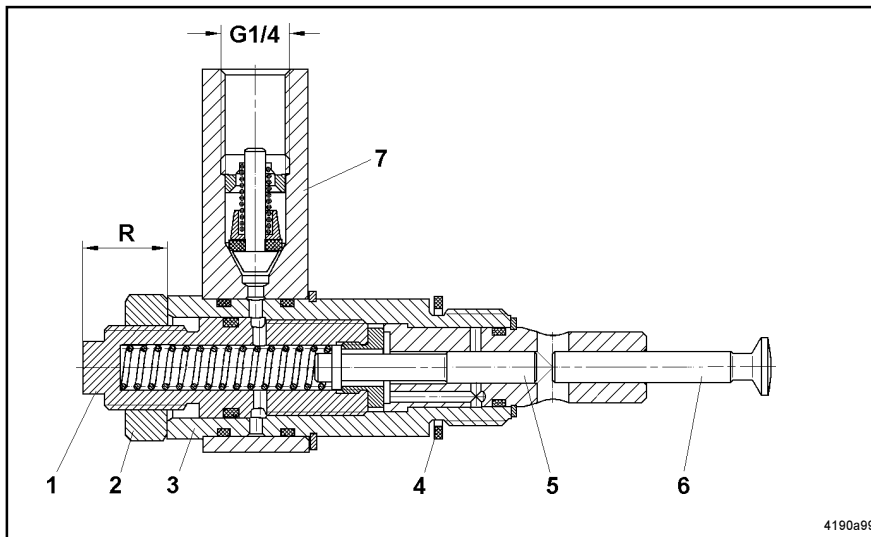

Fig. 4 - Sectional drawing of the pump element
- * Loosen counter nut 2 (Fig. 4) and, using a second key, simultaneously keep threaded sleeve 3 from turning.
- The "R" dimension shown in Fig. 4 indicates the approximate lubricant output range:
- * Once the pump is filled with grease, dig a whole in the grease with a suitable object up to the eccentric ring (Fig.4).
- * Check whether the pump element is equipped with a gasket (see item. 4, Fig. 4).
- First screw the pump element in by hand and then tighten it at the screwed plug 3 (Fig. 4) using a fork wrench SW27. Tightening torque: 30 - 35 Nm
- * Apply the fork wrench at the screwed plug (3, Fig. 4) of the pump element and carefully unscrew the pump element.